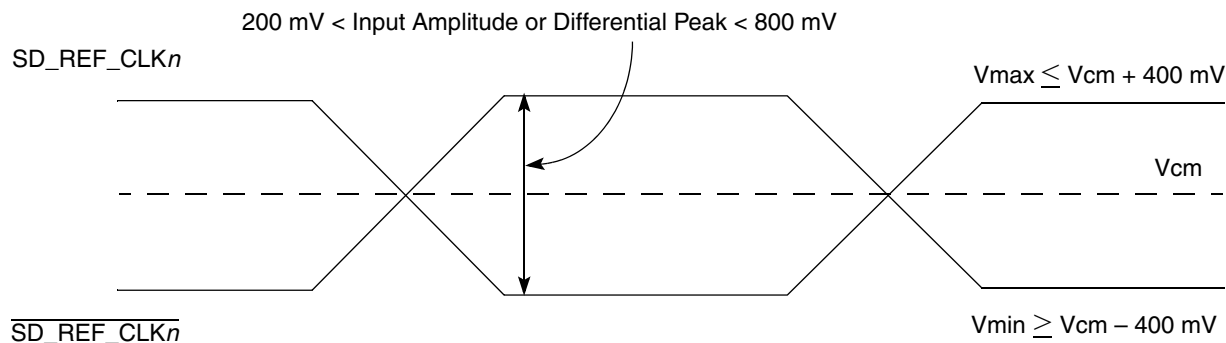

Figure 38. Differential reference clock input DC requirements (external AC-coupled)
- For an external AC-coupled connection, there is no common mode voltage requirement for the clock driver. Because the external AC-coupling capacitor blocks the DC level, the clock driver and the SerDes reference clock receiver operate in different common mode voltages. The SerDes reference clock receiver in this connection scheme has its common mode voltage set to SGND. Each signal wire of the differential inputs is allowed to swing below and above the common mode voltage (SGND). Figure 38 shows the SerDes reference clock input requirement for AC-coupled connection scheme.